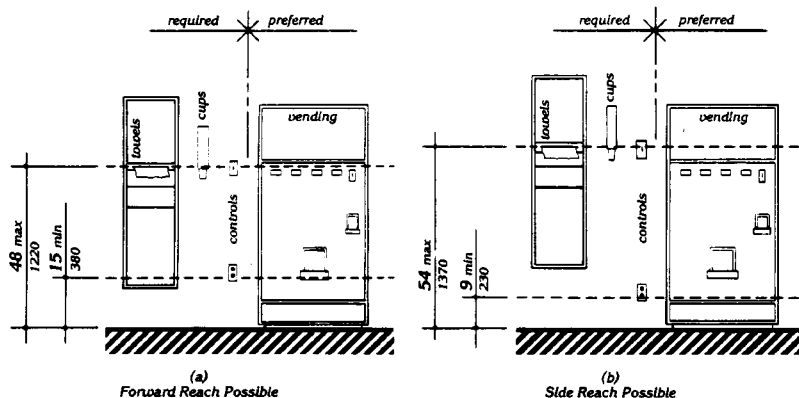

Fig. A8
**A4.27.3 Height.** Fig. A8 further illustrates